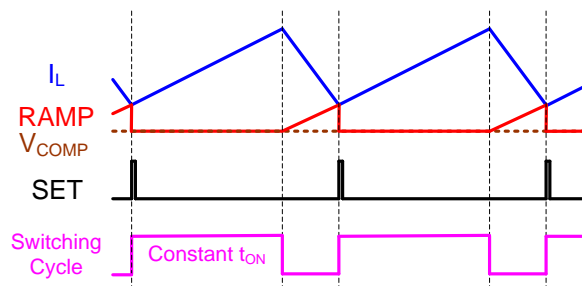

Figure 4: Switching Cycle Generation
The operational error amplifier (EA) corrects any error voltage between V_{FB} and V_{REF} . With the help of the EA, the MPQ8875A can provide excellent load regulation across the whole load range, regardless of whether the device operates in forced continuous conduction mode (FCCM) or discontinuous conduction mode (DCM). It also features internal ramp compensation. The adaptive internal ramp is optimized so that the converter is stable across the entire operating voltage range, with proper design of the external components. Figure 4 shows how the switching cycle is generated.